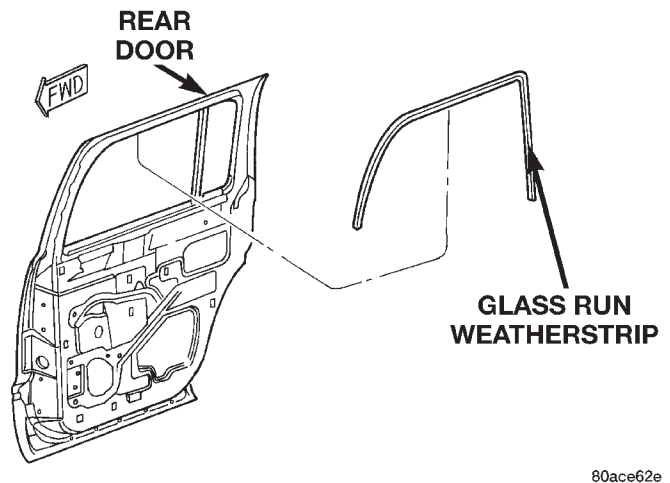

Fig. 57 Glass Run Weatherstrip
- (1) Remove trim panel.
- (2) Remove inner beltline weatherstrip.
- (3) Remove outer beltline weatherstrip.
- (4) Pull weatherstrip from glass run (Fig. 57).